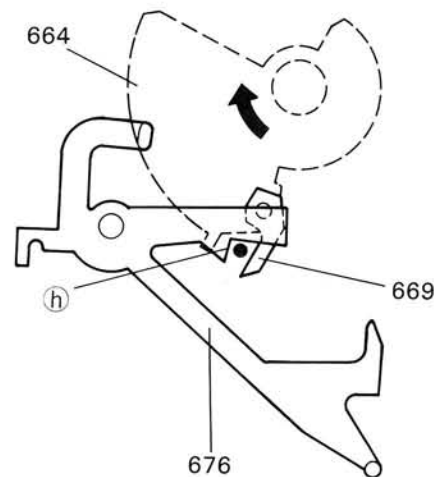

Fig. 2-2
By the hook (669) of the tonearm feed cam (664), the boss (a) on the tonearm feed (658) is pushed to move the tonearm. With a 17-cm record, since (676) and (677) hit against each other at point (g), the hook (669) moves the boss (a) without hitting against (f) and hits against the section (h) of (676) so that the tonearm stops motion at the 17-cm record auto lead-in position. (Fig. 2-2)